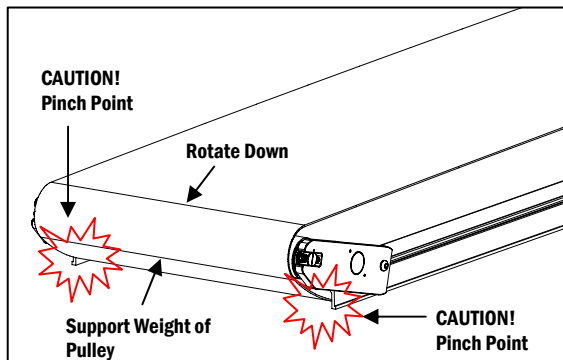

Figure 20
g. While supporting the weight of the Tail Pulley Assembly, rotate the Tension Release Tail Assembly down into the locked, run position. Take caution to keep hands and fingers away from the edge of the conveyor frame where the Tension Release Tail Assembly will engage (**Figure 20**).